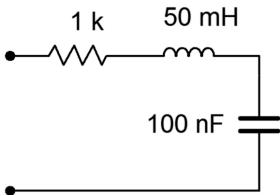

Figure 2.3
- 5. Determine the impedance of the circuit of Figure 2.3 for a 1 kHz sine.
- 6. Determine the impedance of the circuit of Figure 2.3 for a 500 Hz sine.